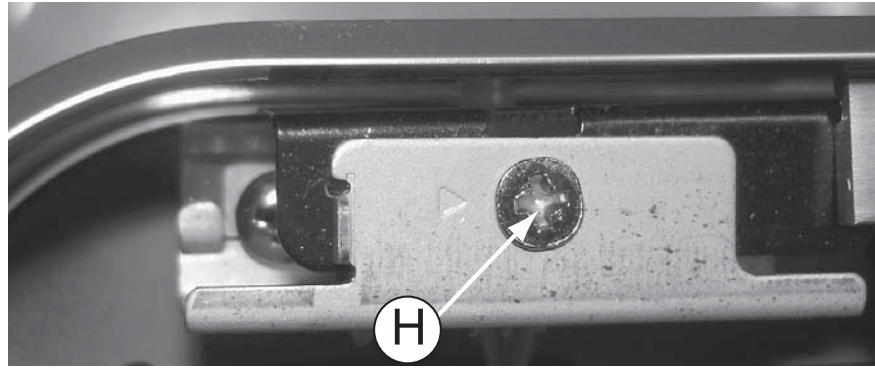

Figure 10
- 1) Loosen 1 screw "H" as shown in figure 10.